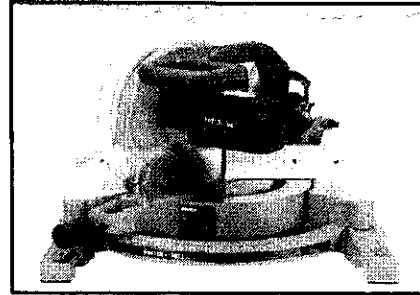

Fig. 2
4. The machine is shipped with the cuttinghead locked in the down position and the table rotated to 45 degrees left, Fig. 2. To release the head and move it to the operating position, see "MOVING CUTTINGHEAD TO THE UP POSITION" and "MOVING THE TABLE TO THE 90 DEGREE CUT-OFF POSITION" in this section.